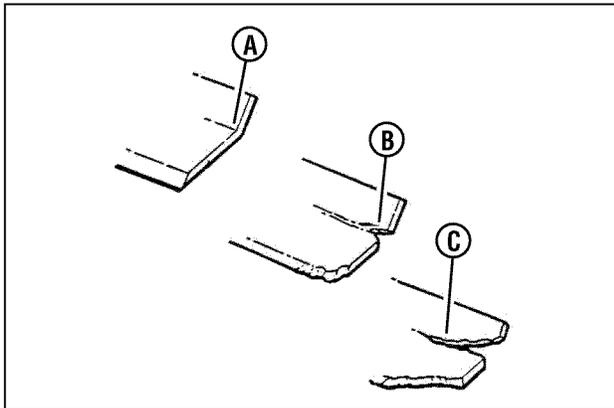

Figure 20: Standard blade wear limits
1. Inspect the blade (Figure 20) frequently for signs of excessive wear or damage:
- (A) New blade
- (B) Wear limit (notch starts)
- (C) Dangerous condition! Do not use on the mower! Replace with a new blade.